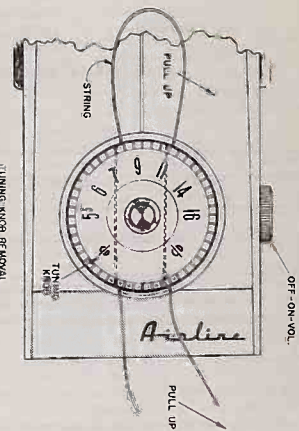

Figure 1 - Tuning knob removal.
1. Remove the tuning knob as follows: Insert a loop of string (see Figure 1) under the tuning knob and pull the knob up and out of the cabinet front.